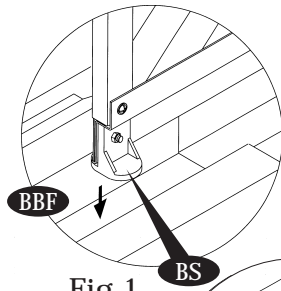
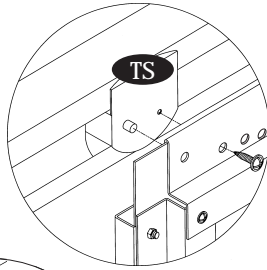

Fig.1
Fig.2
12. Assemble the bottom slider (BS) to the door panel bottom side at both edge with (S3) bolt and nut with washers.
13. Fix the door handle (DH) with door panel from front side with (S3) bolt and nut.
14. Slide the door panel assembly into the base bar front (BBF). Make sure the bottom slider (BS) should slide inside the base bar front. See fig.1. Fix the door panel top to the top slider (TS) with (S1) screws. See fig. 2 & 3.